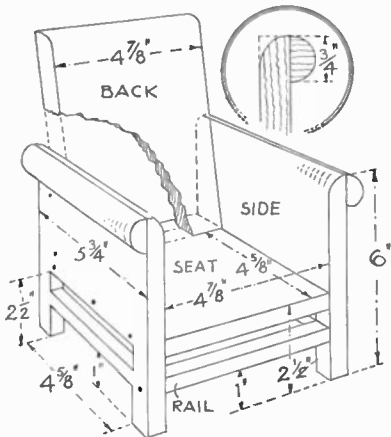

Fig. 2
For chair (A) commence by making the sides from two pieces measuring 6 ins. by 5 1/2 ins., with one single perforation set out and cut, as shown in Fig. 2, to form the lower rail. The rounded part at the top, to form the arm of the sides, may be formed by first cutting two pieces of stuff about 1/2 in. by 1/2 in., rounding them nicely and gluing them into place.
The inside edges of the sides at the top should be shaped so as to continue the rounded effect shown in the enlarged sectional detail in Fig. 2.
The seat of the chair measures 5 1/2 ins. by 4 1/2 ins., and is simply a plain rectangular piece and is glued and screwed to the sides, its upper surface being 2 1/2 ins. up from the bottom of the legs, as noted in Fig. 2.
Resting on the seat, and at a distance of 4 1/2 ins. from the front edge of it, stands the back, another rectangular piece measuring 6 1/2 ins. by 4 1/2 ins. The lower edge of this piece should be chamfered slightly to meet the seat, to which it should be glued firmly. The top edge is rounded off as seen in Fig. 2. Note that the back in this diagram is cut away so as to show how it slopes gently and meets the seat. Glue the back